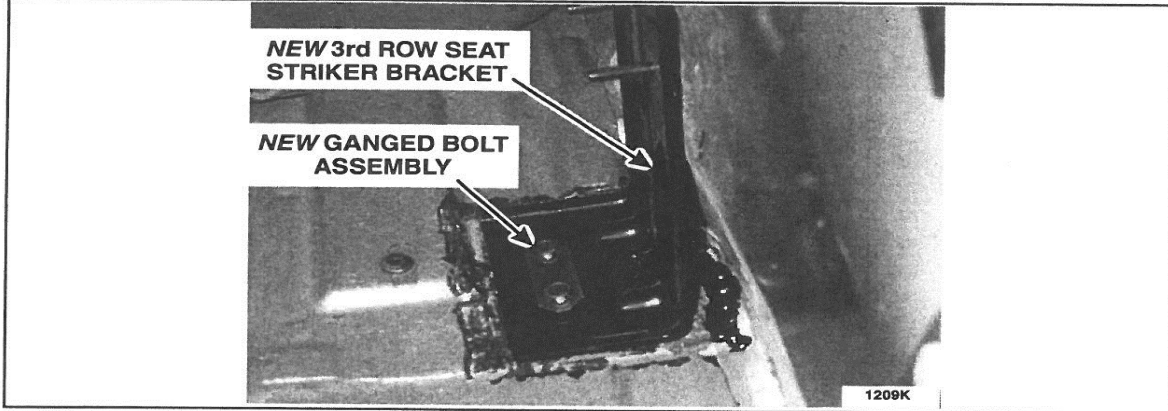

FIGURE 18
36. Place the *new* RH and LH 3rd row seat striker brackets in position. Make sure the bracket locating tab is engaged in the bracket locating hole and that the bracket is flush with the existing wheel well sheet metal. Install two (one each side) *new* ganged bolt assemblies through the holes on each side of the vehicle. See Figure 18.